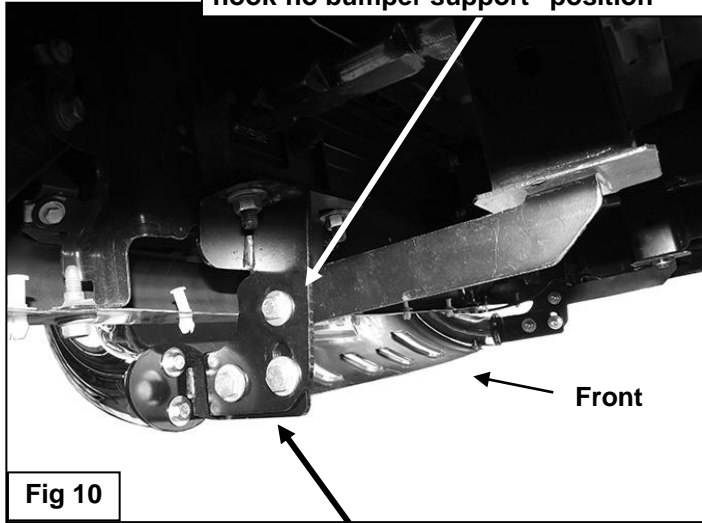

Fig 10
9. Reinstall the Bull Bar described in **Step 5**, **(Figure 10)**.
(Fig 4B) Driver side Support Bracket in "no tow hook-no bumper support" position as also pictured in Figure 10